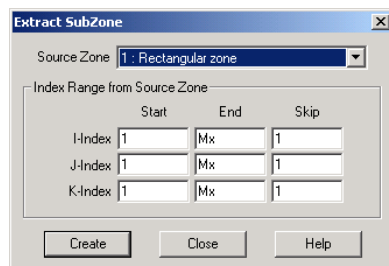

Figure 24-13. The Extract SubZone dialog.
1. From the Data menu, choose Extract, then Sub-Zone. The Extract SubZone dialog appears, as shown in Figure 24-13.